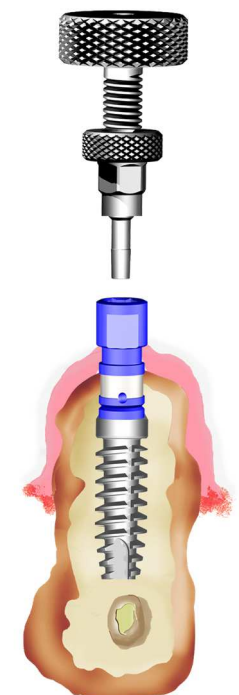

Fig.6
- It will immediately separate from the implant Fig.6